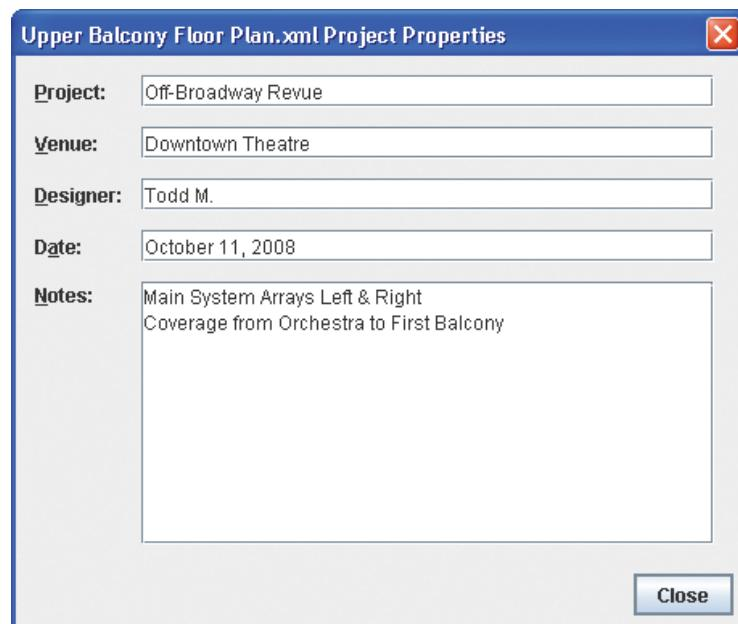

Figure 4. The Product Properties dialog box
3. Enter the desired information in the Project Properties dialog box (Figure 4).